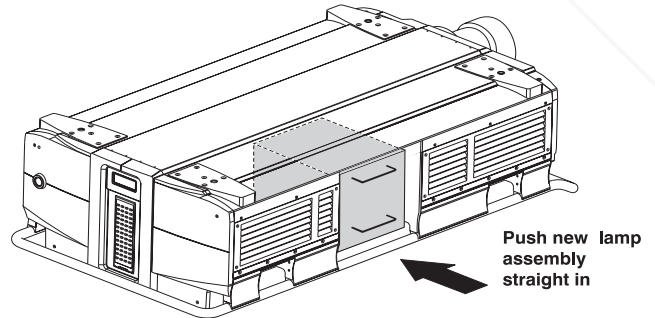

Figure 4.6. Install new lamp module
- See Figure 4.6. Align the lamp module to the lamp compartment with the lamp window facing the projector, handles near top and bottom. Carefully slide the module straight into the projector. When it feels as though it is in place, push very firmly once more to ensure that the unit is properly seated *as far back* as possible.